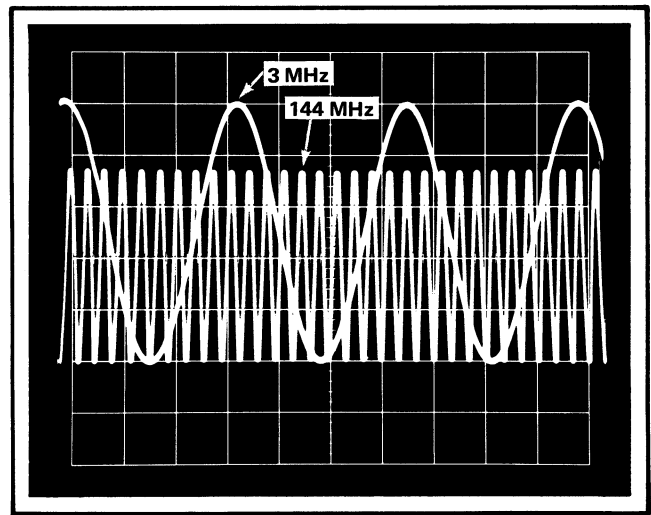

Fig. 4-7. Double exposure showing the 5 division reference signal and the  $\geq 3.5$  division 144 MHz signal for step 7.
f. CHECK—Display amplitude must equal or exceed 3.5 divisions or 70% of 5 divisions. See Fig. 4-7.